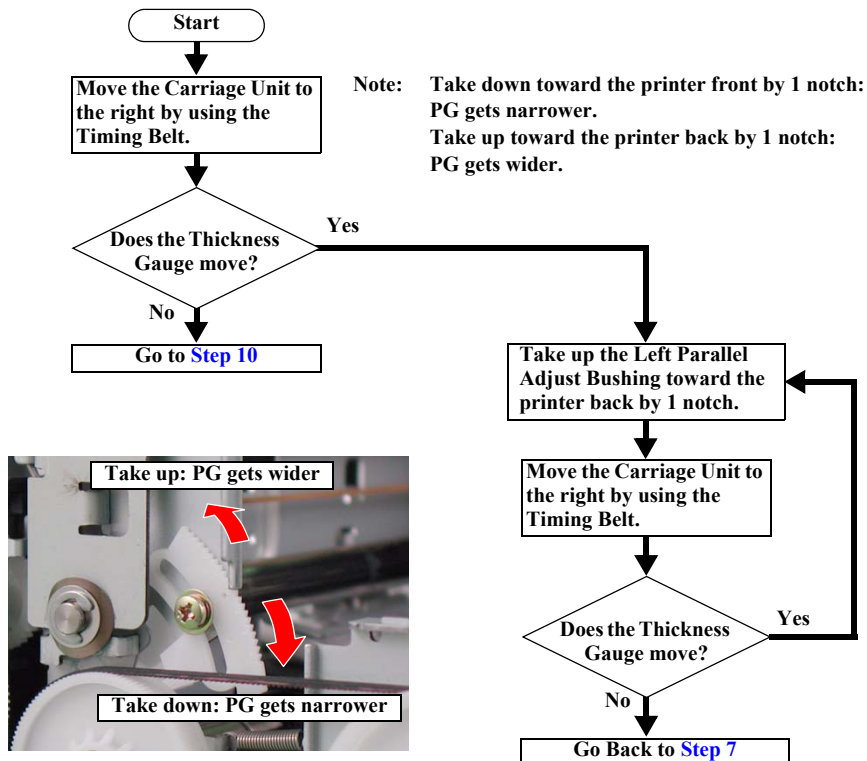

Figure 3-12. PG Checking (1)
- After finishing PG Adjustment on the right, move the Carriage Unit to the left edge again, then check PG according to the flowchart in the Figure 3-12.